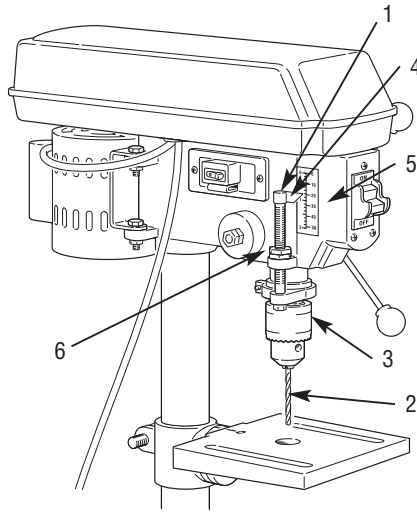

FIGURE 15.
A depth stop (1) is provided on the pinion shaft, allowing multiple holes to be drilled to a specific depth. See Figure 15.
1. Insert drill bit (2) into drill chuck.
2. Lower the spindle (3) until the pointer (4) is in line with the mark on the scale (5).
3. Tighten the lock screw (6).
4. Return the spindle (3) to the up position.
6. Raise the drill press table until the workpiece just touches the end of the drill bit (2).
The spindle return spring (1) is automatically returned to its upper position when the pinion shaft handles (2) are released. It is recommended that the pinion shaft handles (B) be allowed to return to the upper position slowly. DO NOT LET GO OF THE HANDLES after the hole has been drilled. This action will cause excessive wear and tear on spindle return spring. To adjust the spindle return spring, See Figure 15 and follow the steps below:
2. While **firmly holding** the spring housing (5), pull out the housing until the boss is engaged with the next notch on the housing.
3. Turn the spring housing (5) counter-clockwise to increase the spring tension or clockwise to decrease the spring tension.
4. Turn nut (4 - inside) until it contacts the spring housing (5). Back nut (4) out 1/4 turn and tighten it against nut (3 - outside) to hold the spring housing in place.
5. **IMPORTANT: The inside nut (4) should not touch the spring housing (5) after it has been tightened.**